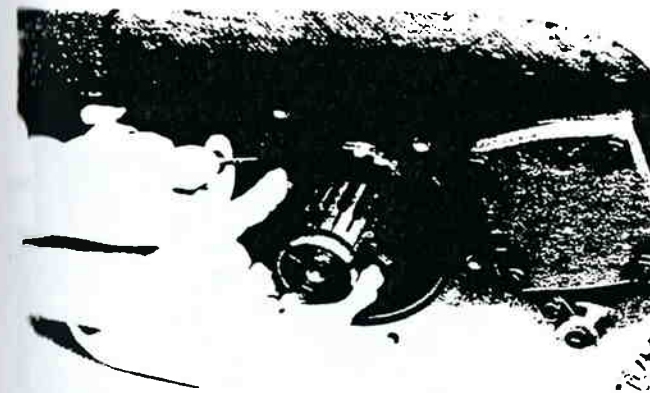

Figure 13-151. Installing Retaining Ring.
3. With mainshaft forward and reverse gear to the rear, seat the reverse gear spacer previously installed on shaft into hub of gear, and install the retaining ring in I.D. of reverse gear (figure 13-151).